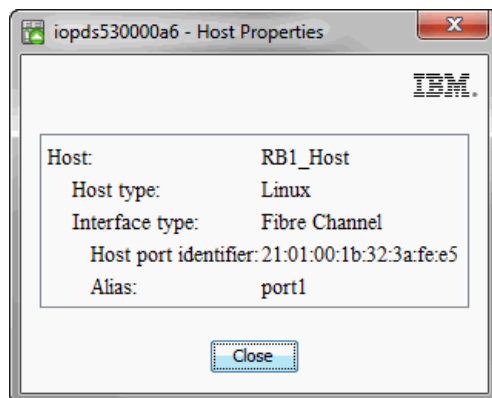

Figure 2-75 Verification of the Host type Linux
1. To verify if you are running the Linux Host type or not, in Storage Manager, right-click the host that was previously create in 2.8.4, "Creating a host on DS5000 series" on page 58 and click **Properties**. You will see the Host type as shown Figure 2-75.